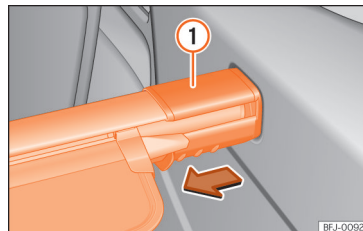

Fig. 153 In the boot: removing the rear shelf.
- Press the support of the cover **»» Fig. 153 ①** in the direction of the arrow and hold it in this position.
- Remove the cover support **»» Fig. 153 ①**.
- Press the support of the cover » **Fig. 153**
① in the direction of the arrow and hold it in this position.
- Remove the cover support » **Fig. 153** ①.